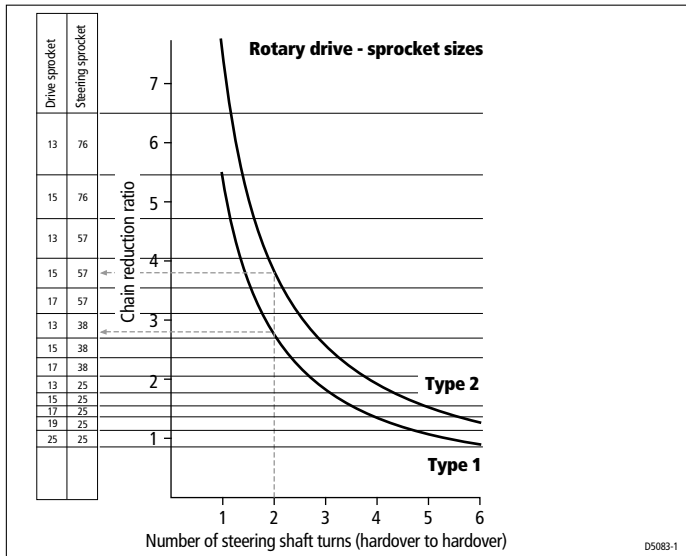

Figure 3: Rotary drive sprocket sizes
- use *Figure 3* to determine the sprocket sizes required at the steering gear shaft (steering sprocket) and at the rotary drive (drive sprocket) by:
- for example, if the steering shaft turns twice when the rudder moves from hardover to hardover you will need (as indicated by the dotted lines on *Figure 3*):
**Note:** *The sprocket sizes in Figure 3 provide good steering performance for most boats. If you think your boat may have unusual steering characteristics, contact Raymarine's Technical Services Call Center or an Authorized Service Representative for advice.*